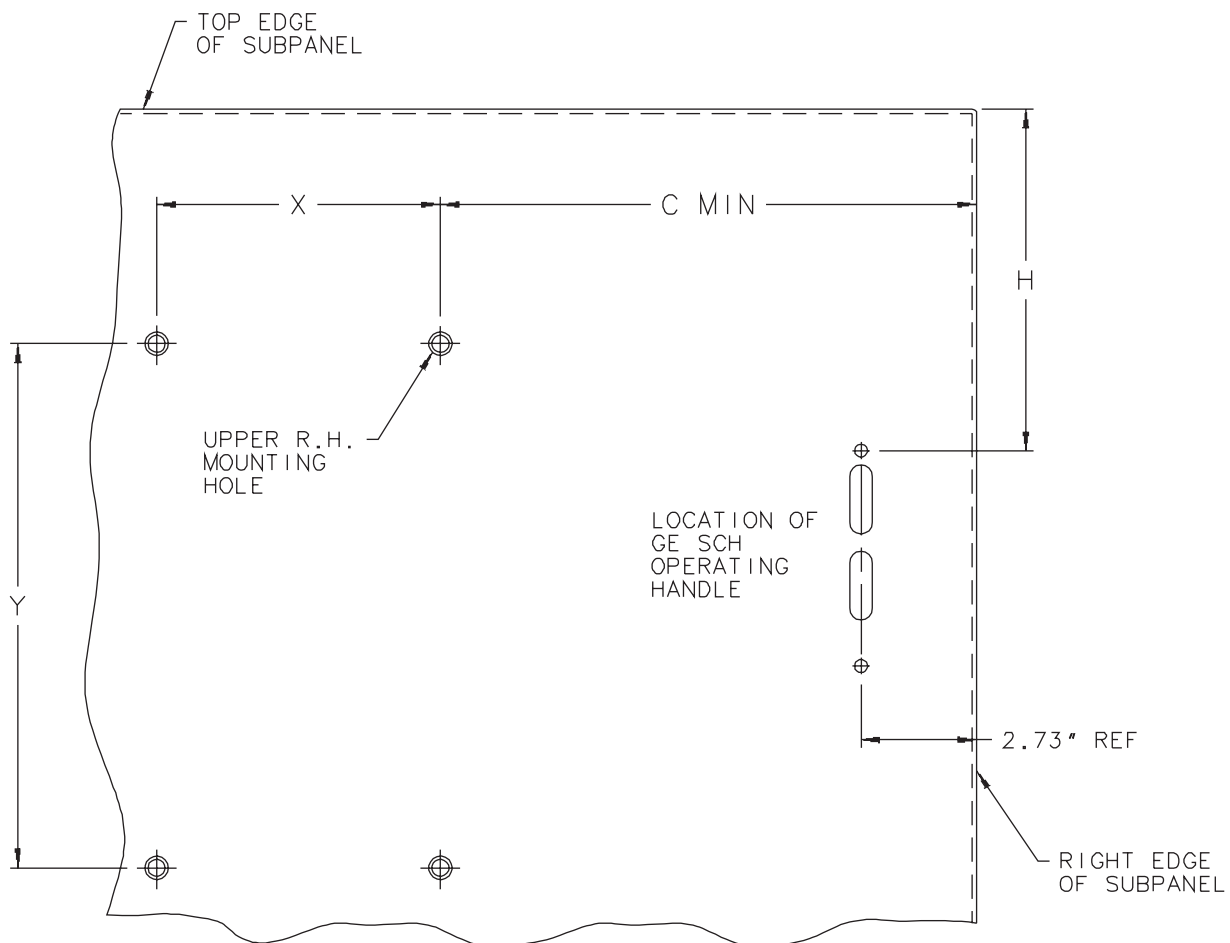

Figure 8
Step 1 – Determine disconnect hole pattern from Figure 8 and the above table. See disconnect manufacturers instructions for range of disconnect location based on cable length being used and subpanel depth selected.